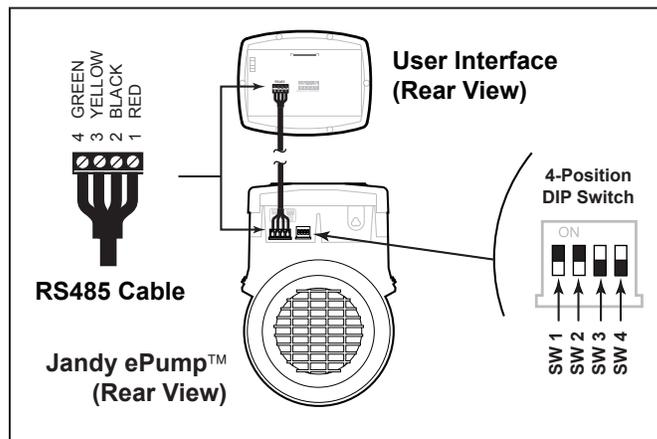

Figure 3. Wiring the User Interface to the Jandy ePump™ Variable Speed Pump
- Set the DIP switch settings for the pump controller with the 1 and 2 in the ON position and 3 and 4 in the OFF position. See Figure 3.
For the ePump™, the 4-position dip switch is located at the rear of the pump, as shown in Figure 3.